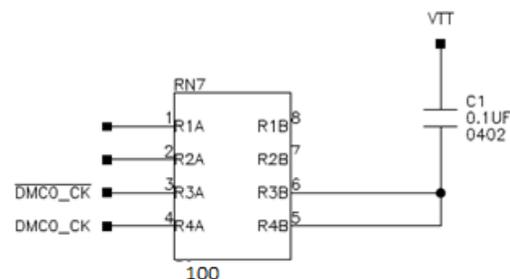

Figure 1: VTT Termination for DMC_CLK
- Implement VTT termination for the DMC_CK and /DMC_CK as shown in Figure 1, where RN7 is a resistor pack.